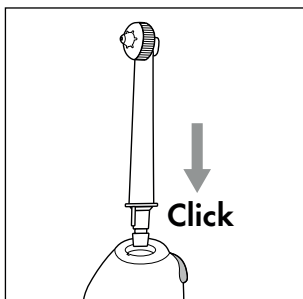

Fig. 2
- ◆ Fit a nozzle attachment **2** onto the hand unit **5**. Press the nozzle attachment **2** into the opening until the nozzle attachment **2** audibly engages in the hand unit **5**. Ensure that the guide tab on the lower end of the nozzle attachment **2** is aligned with the corresponding groove in the opening on the hand unit **5** (see Fig. 2).